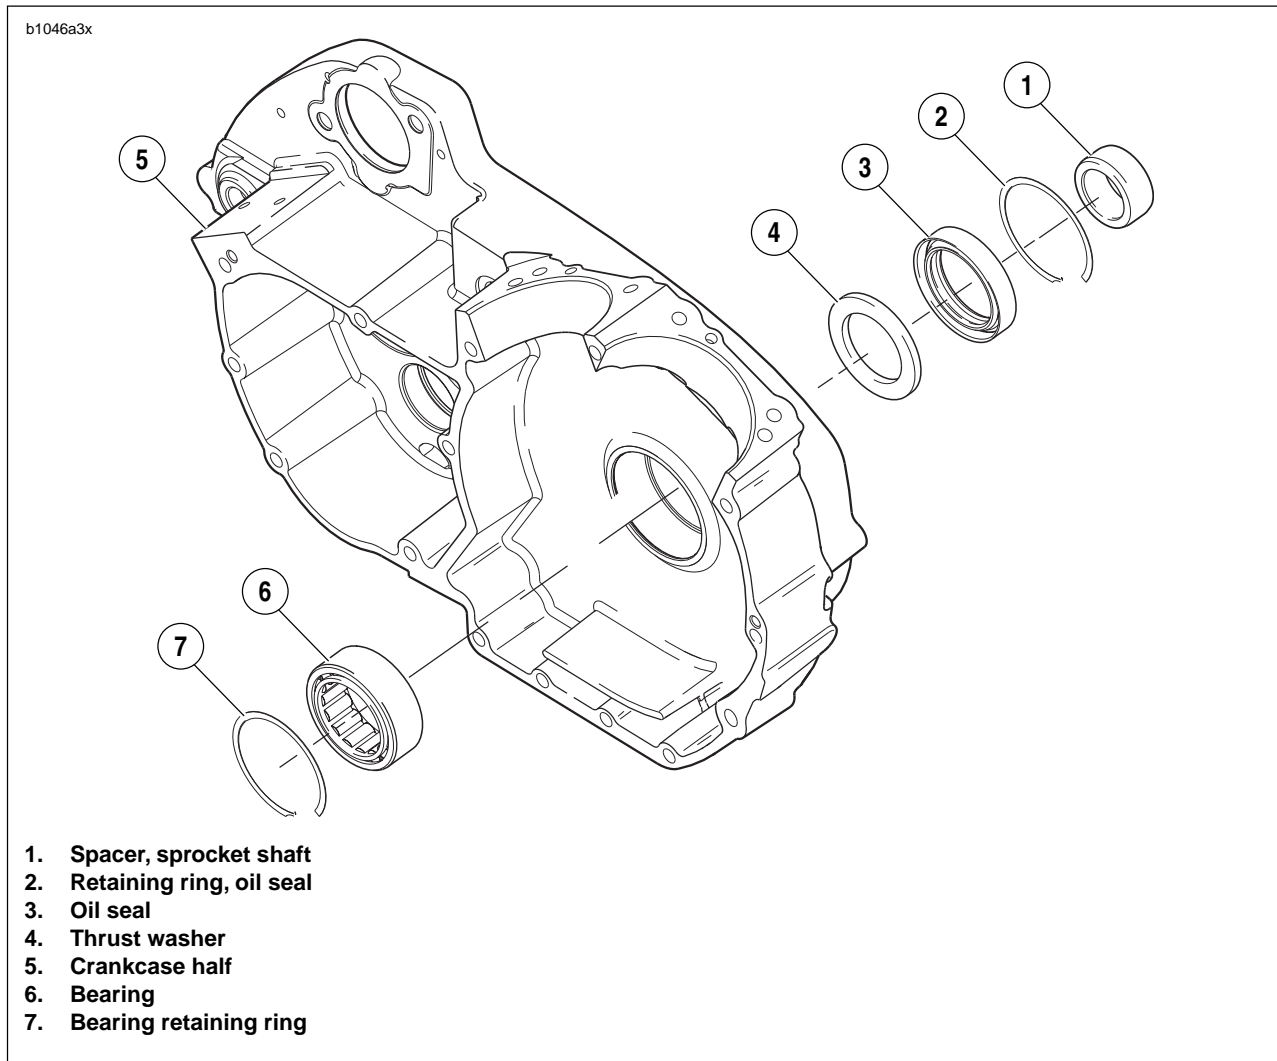

Figure 3-150. Sprocket Shaft Bearing Assembly
9. See Figure 3-150. Install thrust washer (4) from the outside against the sprocket shaft bearing.
10. Install **new** spacer (1) in seal ID. With the thin (lipped) side facing outward, center seal/spacer assembly over bearing bore.